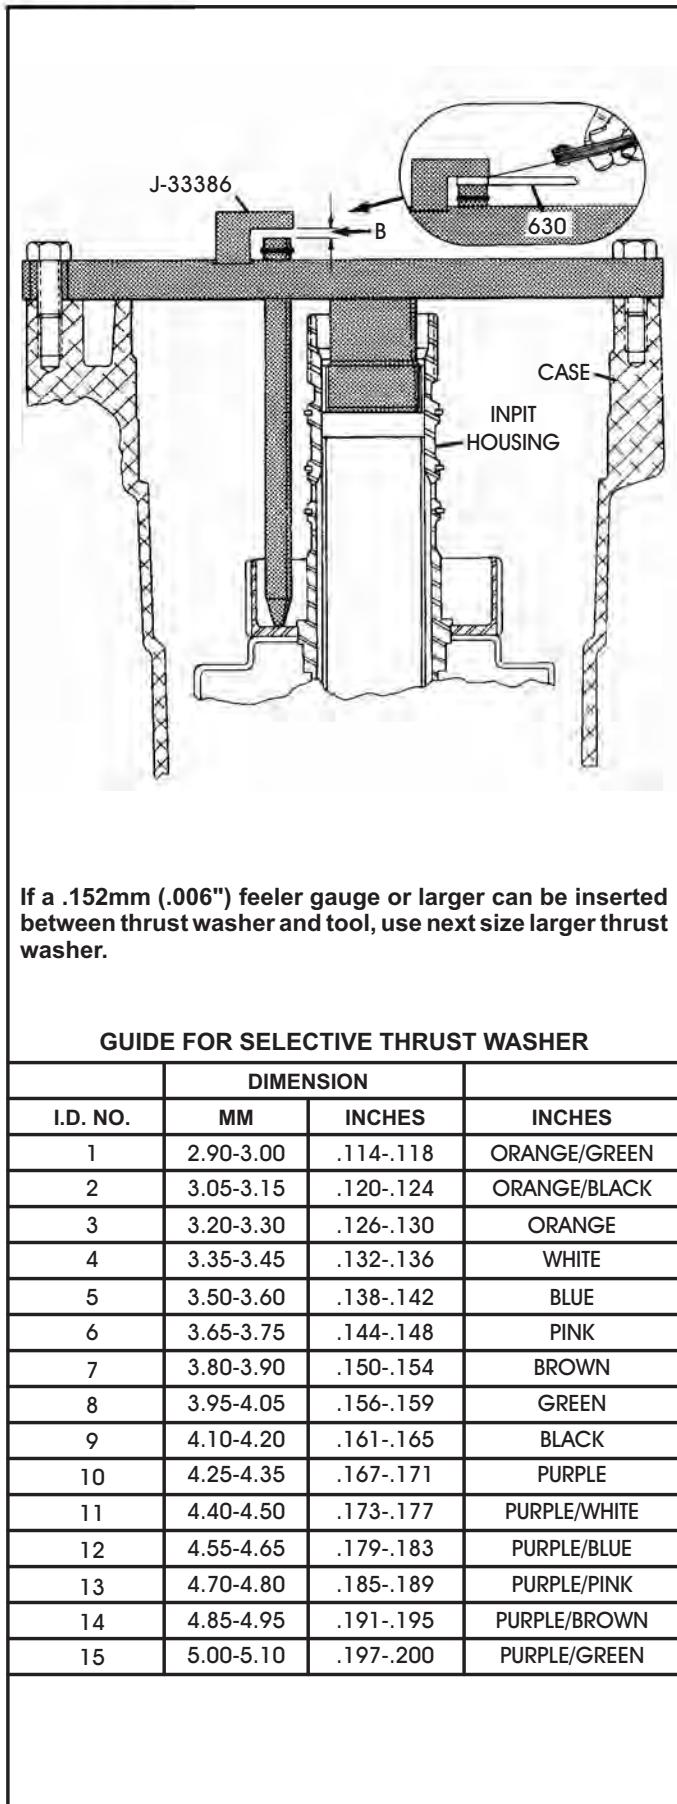

Figure 181
1. Install the J-33386, as shown in Figure 181, ***without*** the selective washer, bearing and the 2nd clutch drum.
2. If a .007" feeler gauge or larger can be inserted between thrust washer and J-33386, as shown in Figure 181, use the next size thicker thrust washer.
3. Use the chart shown in Figure 181 to select the proper thickness selective thrust washer.
5. Use the chart shown in Figure 181 to select the proper thickness selective thrust washer.